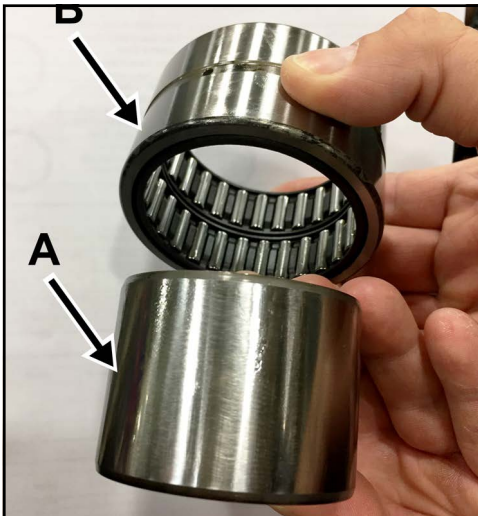

Figure 164 - Remove outer race of needle roller bearing
2. Remove the outer race (Figure 164, item B) of the needle roller bearing. (The inner race is item A.)